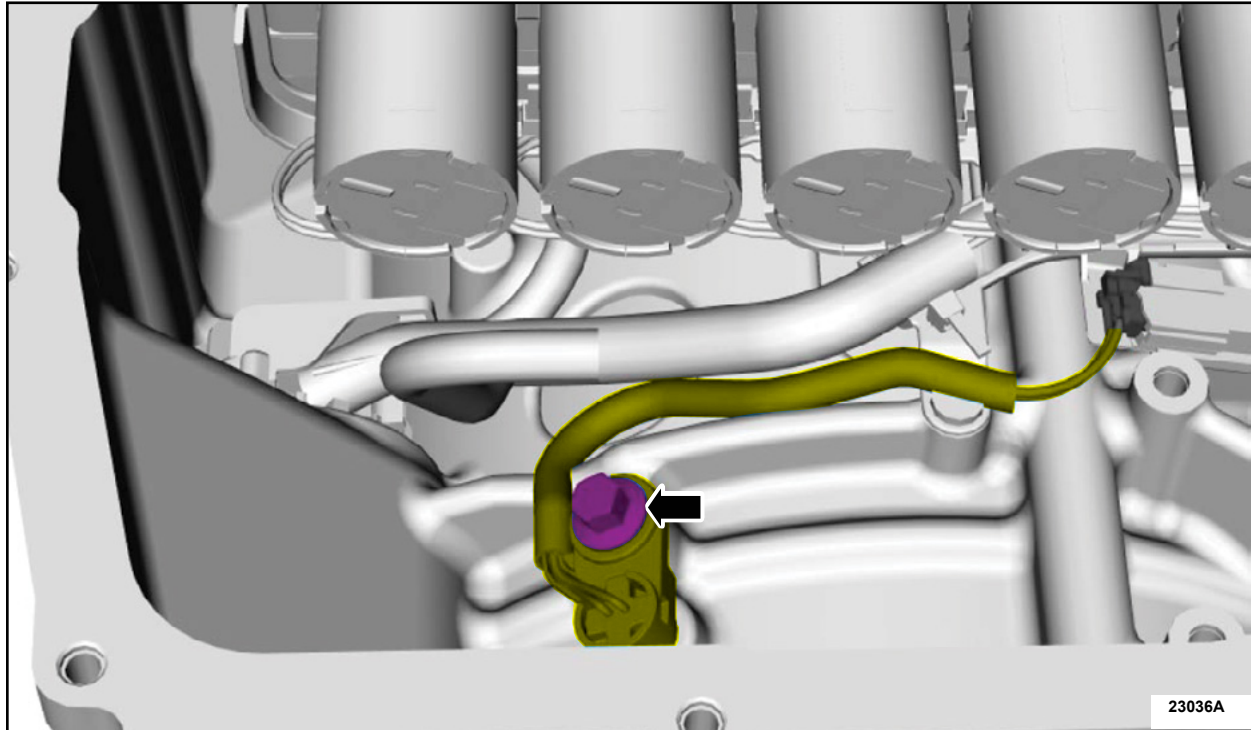

FIGURE 2
4. Remove the bolt and position aside the output shaft speed sensor. See Figure 2.